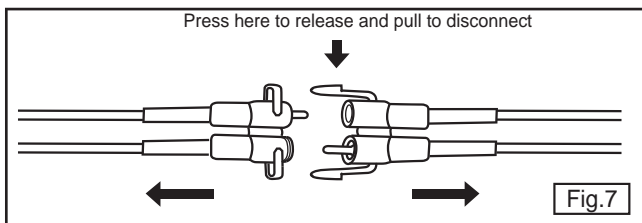

Fig.7
8. Disconnect the battery cable from the housing cable (if not already disconnected - the cable will be disconnected when you buy your SEASCOOTER™) by pressing the locking feature, as shown in figure 7.
2. Unplug the battery at the socket by pressing the locking feature shown in figure 7.